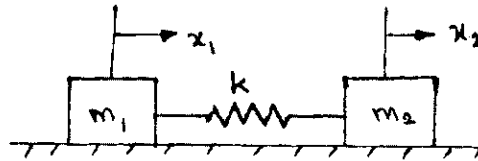

Fig.Q.6(b)
- b. For the system shown in Fig.Q.6(b) find the natural frequencies and amplitude ratios. Given $m_1 = 10\text{kg}$, $m_2 = 15\text{kg}$ and $k = 320\text{ N/m}$. (10 Marks)